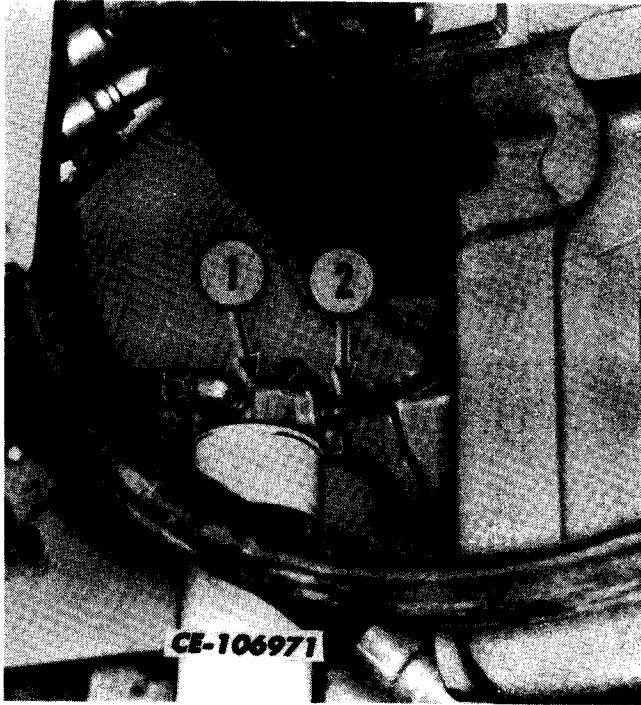

Fig. 35. Primary Fuel Filter
2. **PRIMARY FILTER ONLY:** To prevent fuel from flowing from filter header (1, Fig. 35) when the filter is removed, disconnect and cap crossover tube to filter header hose (2) at the header.